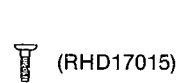

Fig. 2
- Please replace both azimuth adjustment screws (RHD17015) used for to new ones simultaneously when readjusting the head azimuth. (Shown in Fig. 2.) Even if you wish to readjust the head azimuth without replacing the screws, a fine adjustment can not be done because of the screw-locking bond adhered to the azimuth screw.